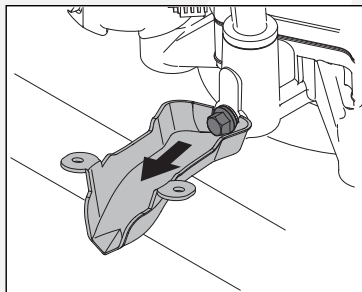

Fig. 35
3. Place the oil drain sleeve (included with tractor) under the drain plug. (Fig. 35)